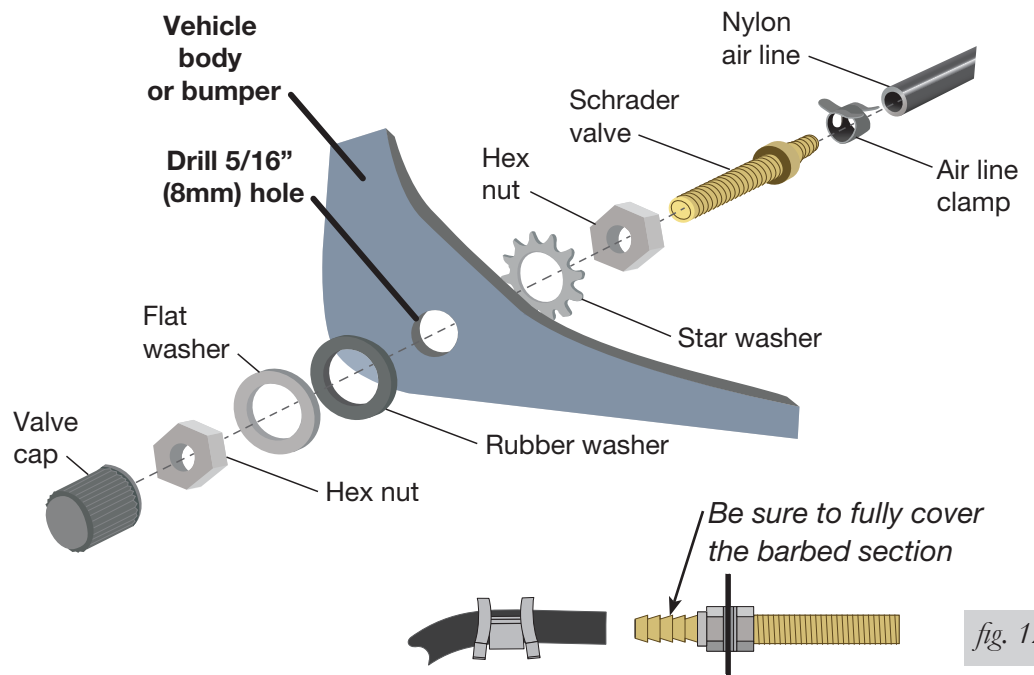

fig. 12
9. Drill a 5/16" hole for the inflation valve and mount as shown (Fig. 12). The rubber washer serves as an outside weather seal.
10. Slide the air line clamp over the air line. Push the air line onto the fitting covering all barbs. Using pliers, slide the air line clamp forward until it fully covers the barbed section (Fig. 12).
5. Push the air line onto the stem, covering all the barbed section (see Fig. 12). With pliers slide the air line clamp forward until it fully covers barbed section.